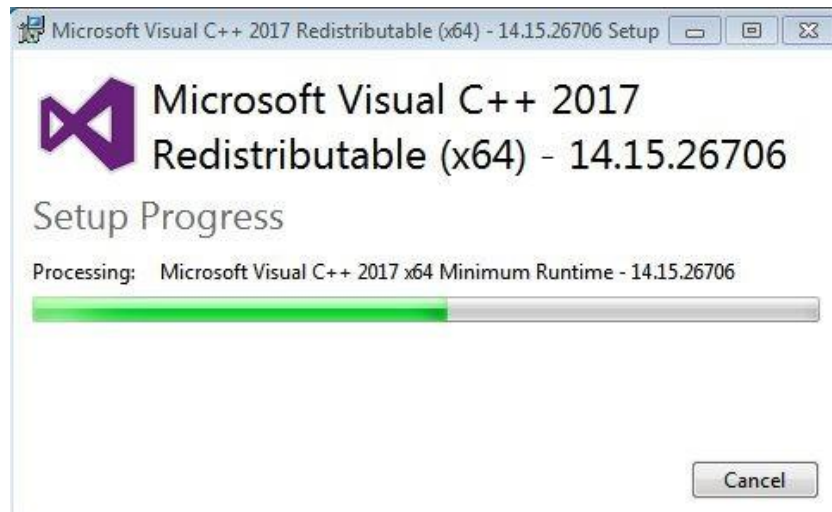
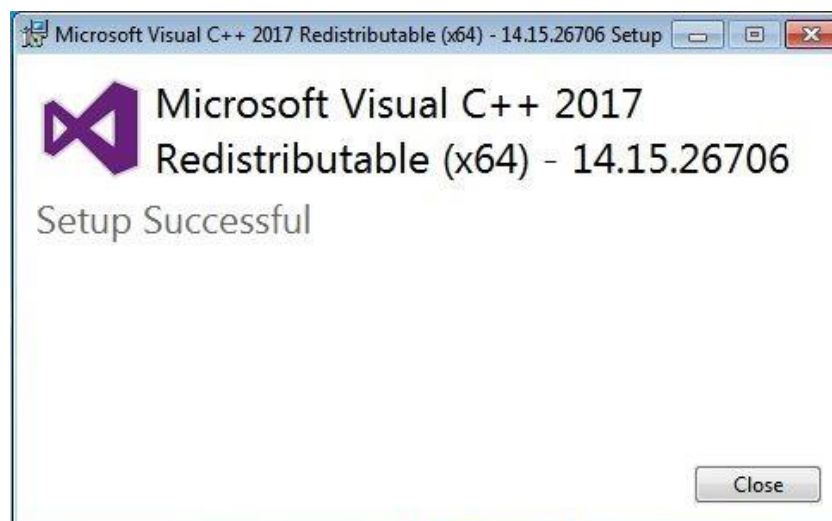

Fig 7
Fig 8
2. Then click "Install" to enter interface as Fig 7 and Fig 8 below.